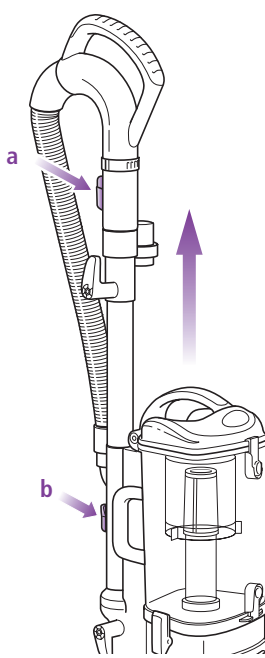

Fig. 14
- 2 Press the handle release button (a) and pull the handle up or press the extension wand release button (b) and pull the extension wand up. (Fig. 14)
- 1 Press the extension wand release button and pull the extension wand up. (Refer to page 10, Fig. 14-b)